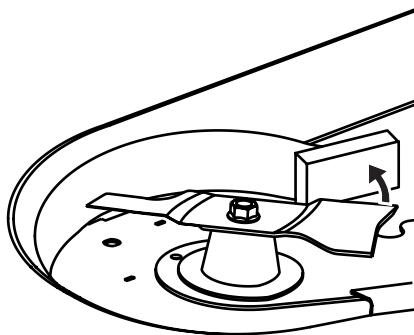

Figure 4-21
1. Secure the blade from turning counter clockwise during service by placing a block of wood between the blade and the deck housing, see Figure 4-21, or wrap a rag around around one end of the blade and grasp the blade firmly.